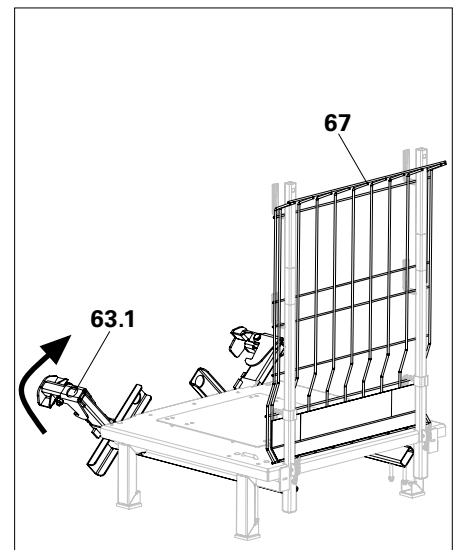

Fig. A13.14
2. Mount the Side Mesh Barrier (67). (Fig. A13.14)
3. Fold suspension beam (63.1) upwards. Ensure that the sliding sleeve (63.2) is at the top. (Fig. A13.14 + A13.14a + A13.14b)